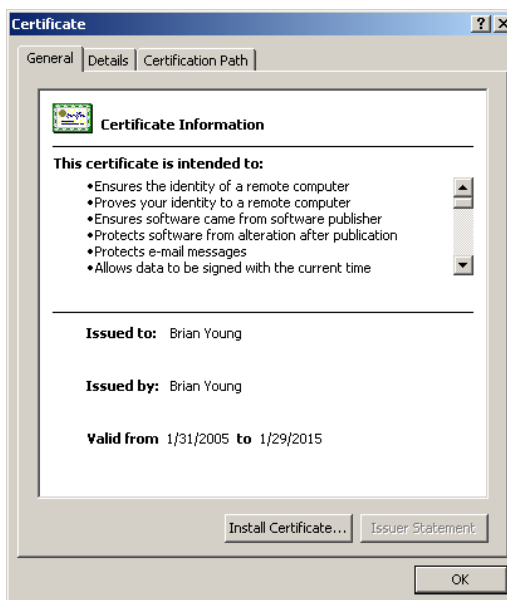

Figure 18. Certificate Page
4. Select **Open**. The Certificate page opens (see Figure 18).